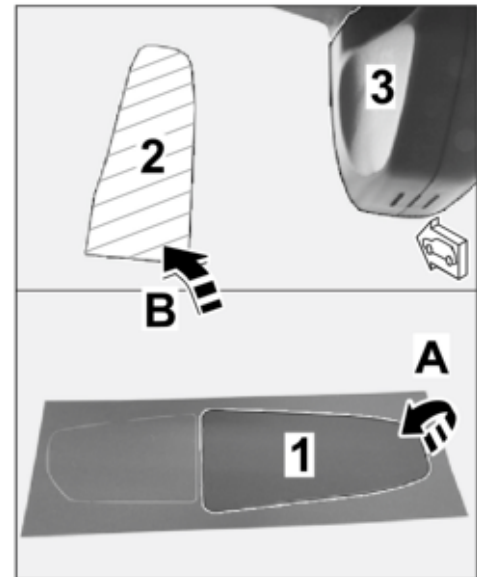

Figure 8
2.2.1 Pull 3M privacy film off the backing sheet. ⇒ *Figure 8 -A-*
2.2.2 Position 3M privacy film on marked bonding surface on windshield. ⇒ *Figure 8 -B-*